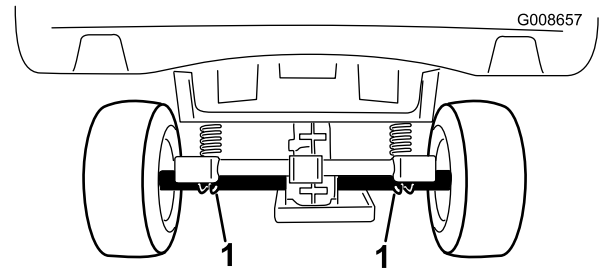

Figure 23
- The lifting point at the rear of the machine is under the axle tubes (Figure 23).